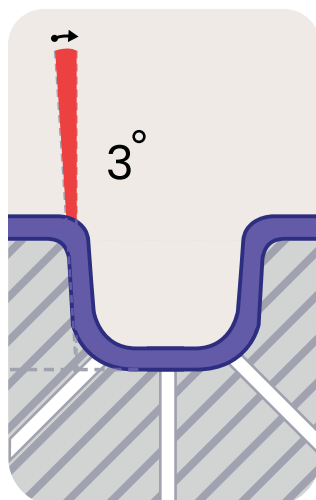

Figure 2
- Draft angle⁴ of 7° to 9° (Figure 2). These higher draft angles will produce less thinning of the forming material than the lower draft angles (3° to 5°) typically used with non-barrier materials. Note that draft angle should be tailored to the size and shape of the cavity.